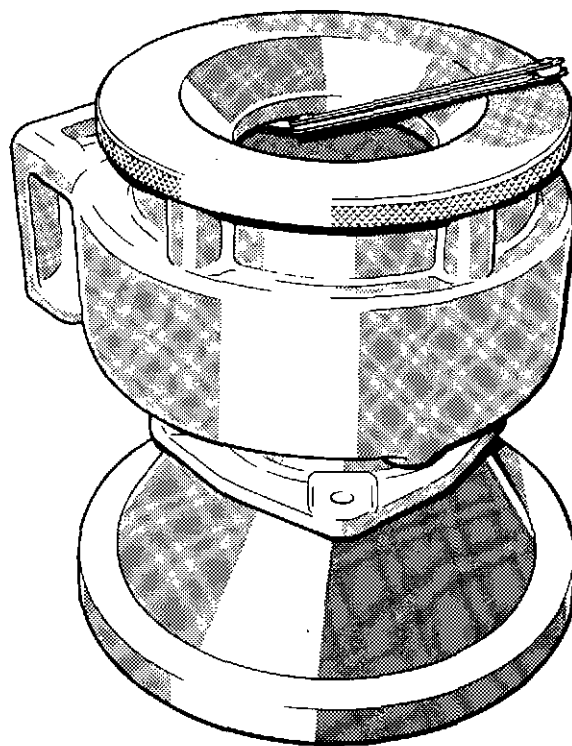

Fig. 9 Checking impeller clearance
- 45 Lift the insertion tool off the impeller and locate the Checking Gauge, VT 13976, in the pump casing. Using feeler gauges (fig. 9), check the clearance between the impeller blades and the gauge. Permissible clearance is 0,8 to 1,5 mm (0.030 to 0.060 inch). If the clearance is excessive, carefully readjust the insertion tool stop screw, and press the impeller further on the shaft until the correct clearance is achieved.